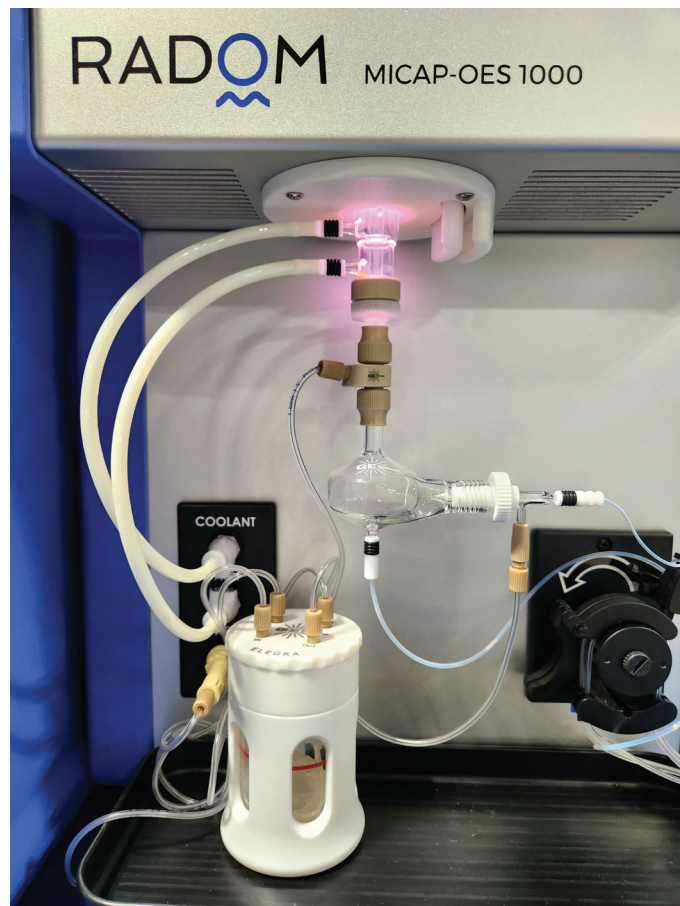

Figure 1. MICAP sample introduction area with Glass Expansion accessories utilized in this brine analysis
A simulated brine solution was prepared with 30% NaCl w/v by dissolving 15 g of 99.999% sodium chloride (Sigma Aldrich 204439-VAR) in 50 mL Type 1 water and 2% nitric acid. Four standards were prepared at 0, 0.025, 0.1, and 0.5 ppm with the same NaCl and acid concentrations. Yttrium (Y) was used as the internal standard at 10 ppm in all solutions. These MICAP sample introduction components are summarized in Table 1, and displayed installed on the MICAP in Figure 1.